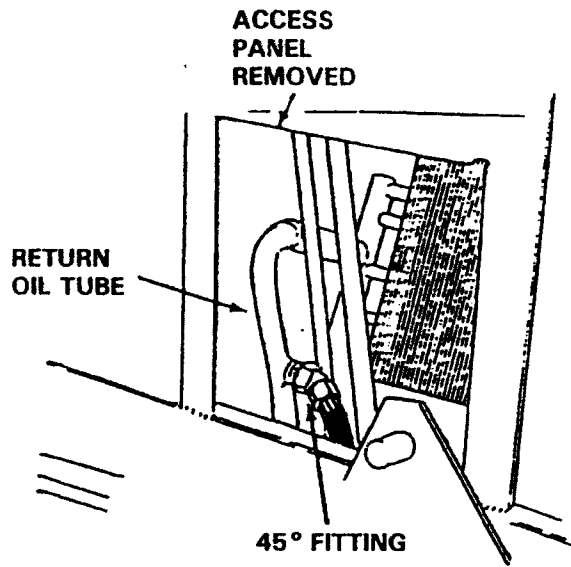

FIGURE 3
5. Route the drain hose as shown in Figure 3 and 4.
6. Connect this hose to the nipple on the return oil tube as shown in Figure 3 using a 45° fitting.